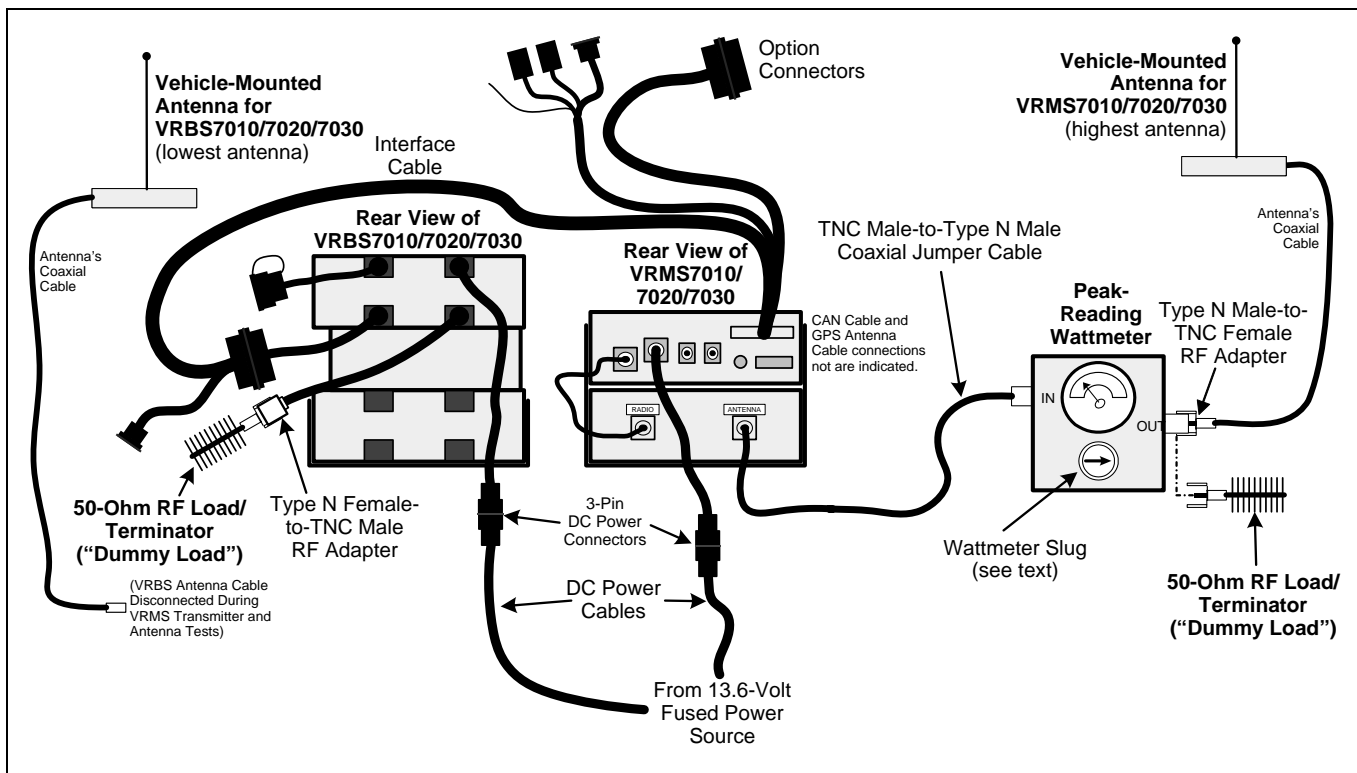

Figure 16-1: Wattmeter Connections for VRMS7010/VRMS7020/VRMS7030 Antenna Tests
2. Using the Type N male to TNC male coaxial jumper cable, connect the antenna connector on the rear of the 800 MHz bandpass filter (connector labeled "ANTENNA") to the wattmeter's input connector. Refer to Figure 16-1 as necessary.
5. Connect the other 50-ohm RF load/terminator to the VRBS. Use the Type N female to TNC male RF adapter. Refer to Figure 16-1 as necessary.
3. Connect the cable from the vehicle-mounted VRMS antenna (cable labeled “VRMS Antenna”) to the wattmeter’s output connector, as shown in Figure 16-1.